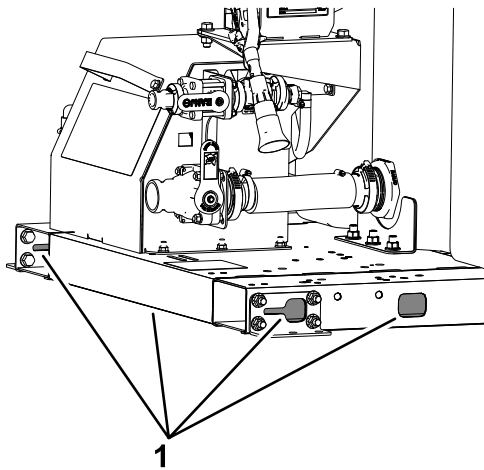

Figure 4
3. Secure the machine to the vehicle using straps or chains connected to the tie-down points (Figure 4).